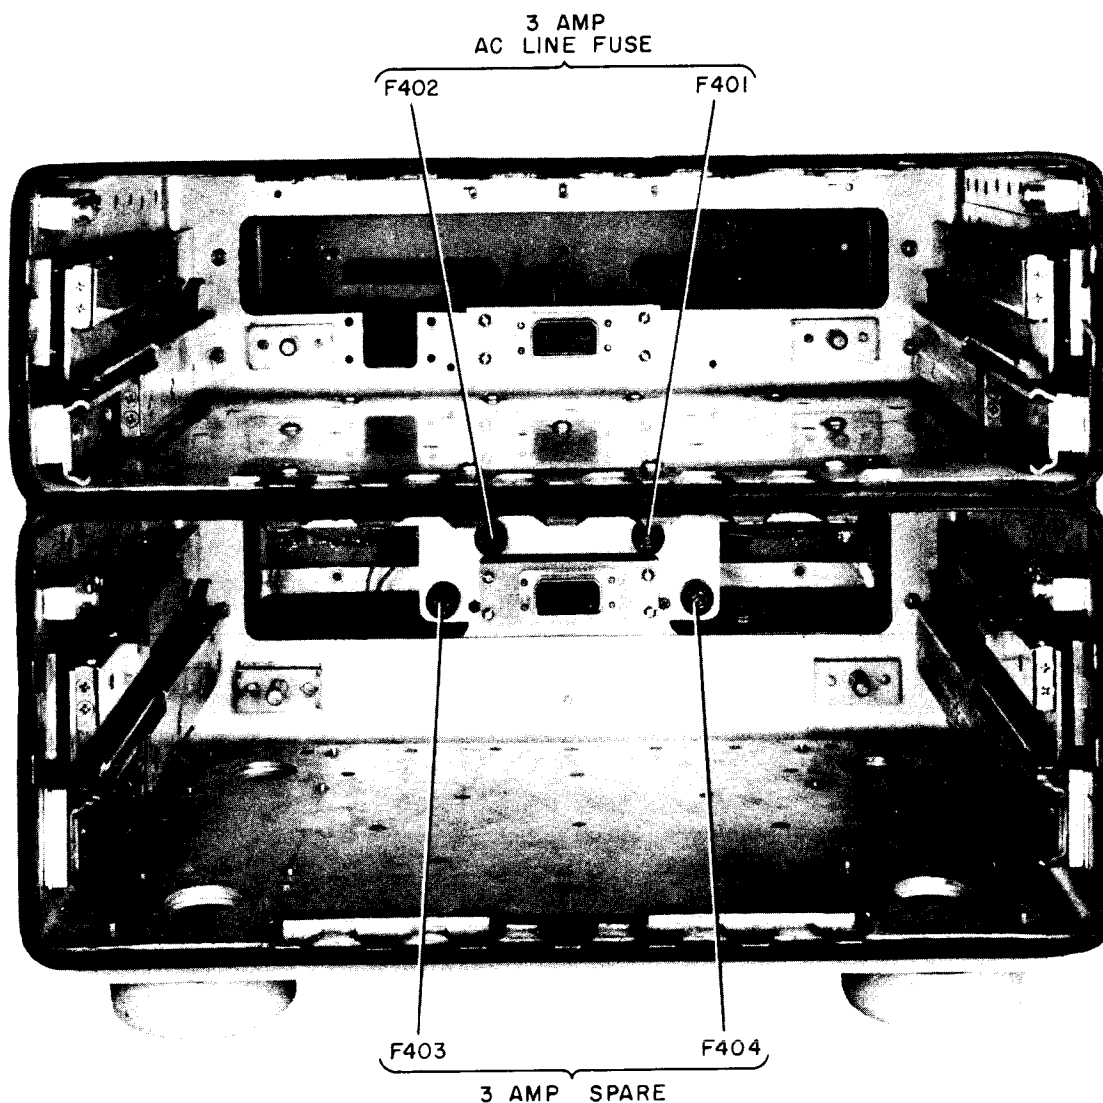

Figure 5-1. Location of Power Line Fuses
(2) LOCATION OF FUSES. (See Figure 5-1, 5-2 and 5-3.)—The AC power line fuses F401 and F402 are located in the cable filter assembly at the rear of the cabinet. The easiest way to replace these fuses is by pulling out the lower chassis and reaching into the cable filter assembly from the front of the cabinet. Two spare fuses, F403 and F404, are located in the same area. See Figure 3-2.